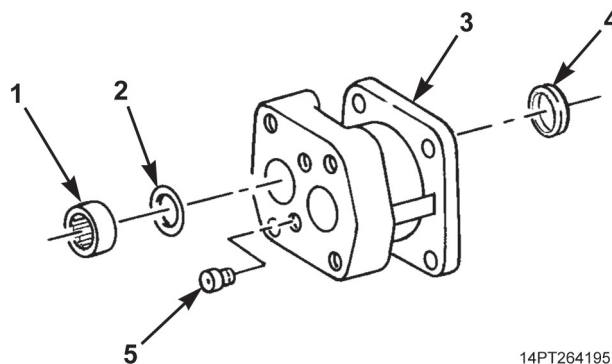

Figure 4. Check Assemblies and Roller Bearings Removal.
7. Remove two check assemblies (Figure 4, Item 5) from end housing (Figure 4, Item 3). Discard check assemblies.
8. Remove two roller bearings (Figure 4, Item 1), ring seals (Figure 4, Item 2), and lip seal (Figure 4, Item 4) from end housing (Figure 4, Item 3). Discard roller bearings, ring seals, and lip seal.